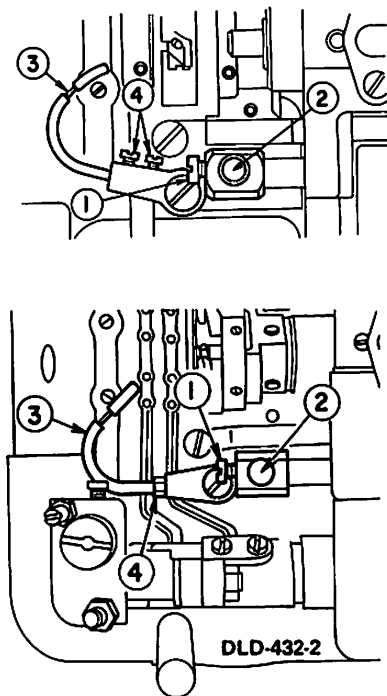
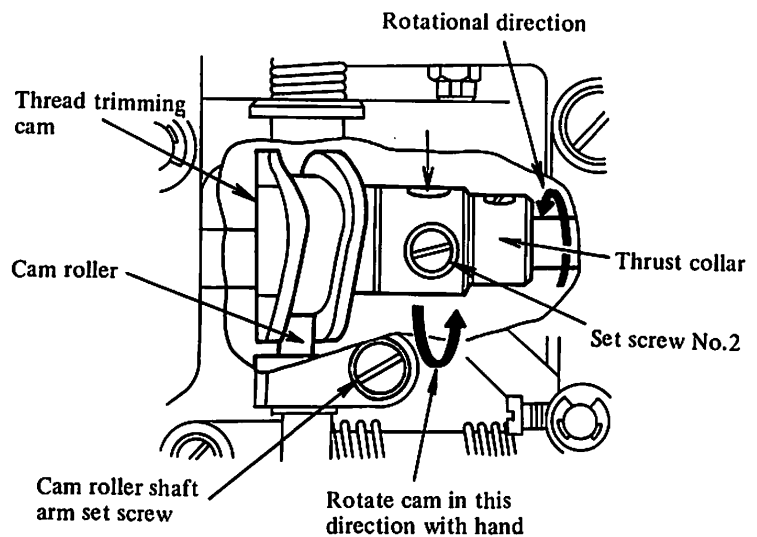
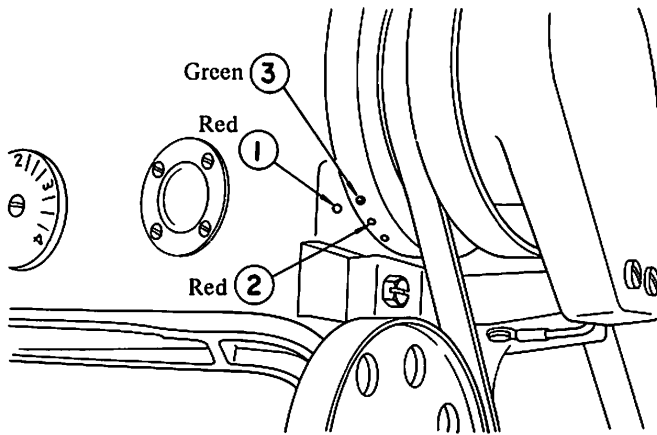
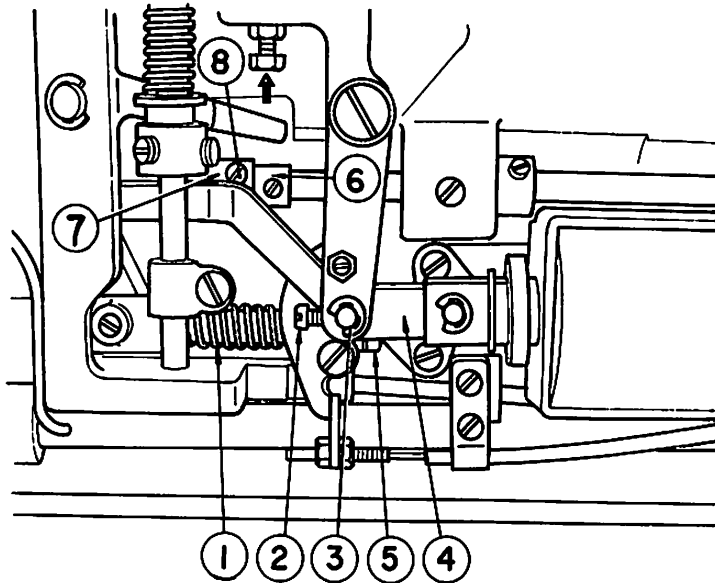

Fig. 16
Fig. 17
Fig. 18
Fig. 20
Tilt the machine, turn the hand wheel with your hand until the thread take-up comes just before the upper dead point and if the sewing hook presser (Fig.16 ③) is pushed deeply to right, the cam roller (Fig.17) will enter the cam groove of the cam (Fig.17) and will be interlocked there. In that condition, rotate the hand wheel in the reverse direction than the conventional way, and the hand wheel will come to a point where it will not rotate any more. At this point if cam timing is matched so that the indicated line of the arm (Fig.18 ①) and the indicated line of the hand wheel (Fig.18 ②) are matched together as shown in Fig.18, it becomes a cotton thread timing. But if the indicating line (Fig.18 ①) is matched with the indicating line (Fig.18 ③), it becomes a timing for synthetic thread.
First, loosen the 2 set screws of the trimming cam (Fig.17) in order from set screw No.1 and No.2, and match the indicating line of the arm with the indicating line of the hand wheel. (For cotton thread, match red color ① with the red color ② and for synthetic thread, red color ① with the green color ③), (Fig.18)
Then, by pushing the sewing hook presser (Fig.16 ③) to right, interlock the cam and the cam roller, and without rotating the hook shaft, rotate the cam only toward the reverse direction than the normal hook shaft rotational direction with your finger tips. At the position where the cam does not rotate any more, push the cam against the thread trimming cam thrust collar (Fig.17) and finally tighten the cam set screws (Fig.17) in the order of No.2 and No.1.
This is adjusted by changing the right or left position of the moving knife shaft (Fig.20 ①) when the machine stops. By this adjustment, the interlocking of the cam and the cam roller also changes, so match the position of the thread trimming cam toward the shaft direction, also.
- a. First, loosen the magnet set screw (Fig.20 ②) and pull out the magnet link pin (Fig.20 ③).
- b. Move the magnet link (Fig.20 ④) downwards and adjust the screwed-in amount of the knife moving shaft adjusting nut (Fig.20 ⑤). If this nut is screwed in deep, the retreating range of the knife becomes greater and if it's loosened, the range gets less.
- c. Loosen both set screws of trimming cam ⑦ and the thrust collar ⑥.
(In case of cotton thread, match ① with ② of Fig.18 and for synthetic thread, match ① with ③)
- e. Rotate the set screw No.2 (Fig.20 ⑧) (indicated point) of the trimming cam so that it comes to front and when it comes to front, push the sewing hook presser to right.
- h. Temporarily tighten the set screw No.2 ⑧ of the cam.
- i. Tighten the lock nut. (Fig.20 ⑤)
- ① Is the indicating line of the pulley matched?
- ② Is the roller inserted smoothly into the cam groove?
- ③ Is the retreated range of the moving knife 2~2.5mm?
At the position where the take-up has come just before the upper dead point, lower the presser foot and when the hook thread presser (Fig.16 ③) is pushed hard to right, verify that the floating range of the second thread tension disc is 0.5~1 mm.